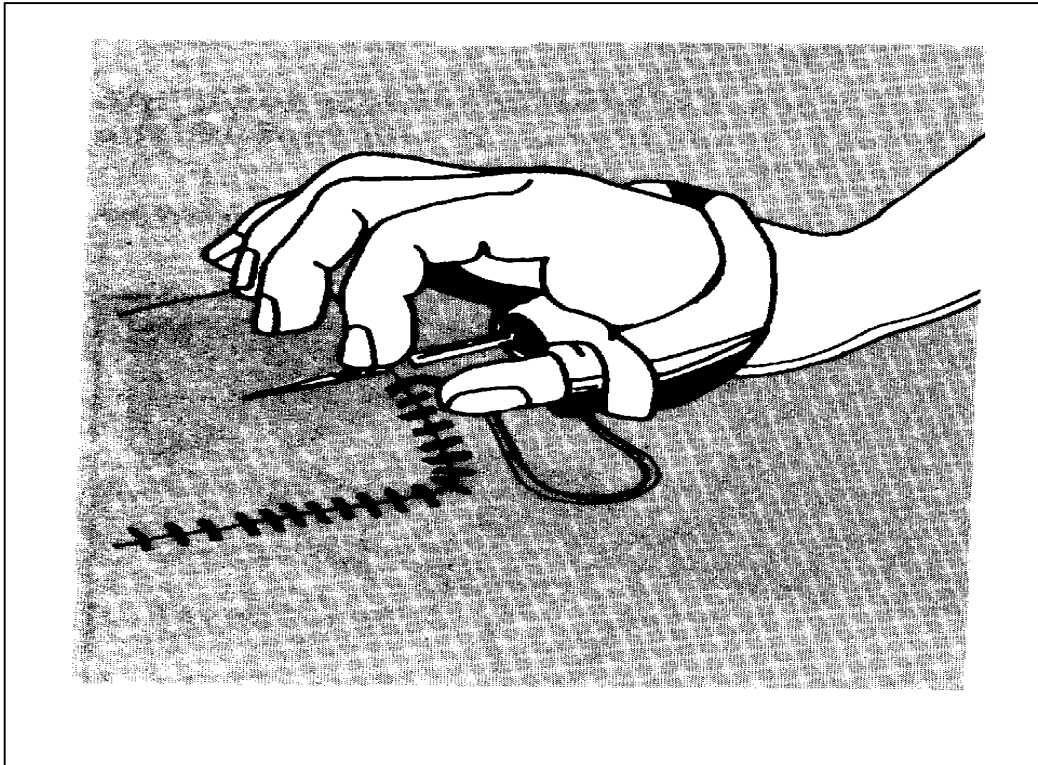

Figure 7-9. Felling Ssitch on canvas
c. **Felling Stitch.** The felling stitch (Figure 7-9) is also called the overhand stitch in canvas repair. It is used to attach a patch by hand. To make a row of felling stitches--
- (1) Push the sailmaker's needle through the canvas, and pull the thread through the canvas to the knot.
- (2) Backstitch to tack the beginning of the row.
- (3) Push the needle down vertically into the canvas at a point that is just beyond the folded edge of the patch.